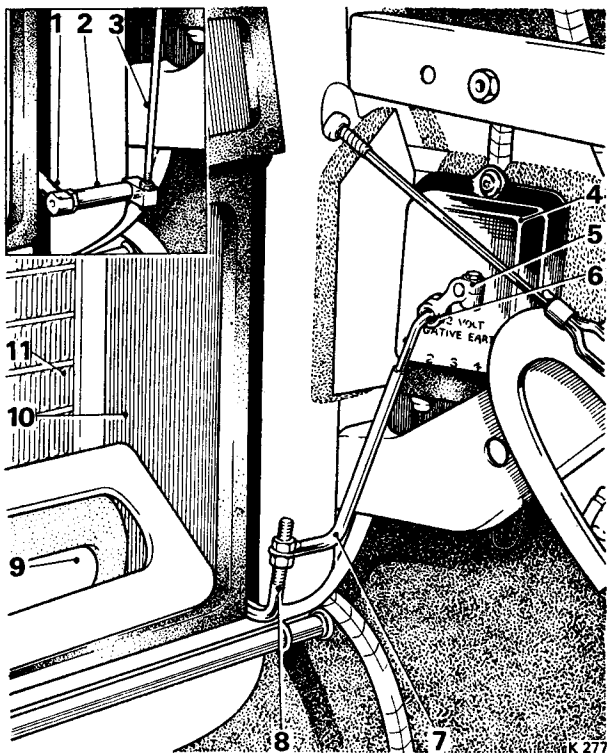

FIG. C11 LOWER TEMPERATURE FLAP ACTUATOR SETTING
3. Disconnect the upper control rod from its lower control rod 8 or lever 1 (whichever is fitted); refer to Figure C11.
(see Fig. C11)**